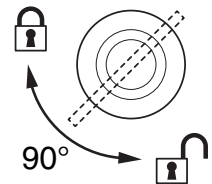

Figure 5: Locking quarter-turn fasteners
3. See Figure 5. Turn the levers on the quarter-turn fasteners a full 90° clockwise to lock.